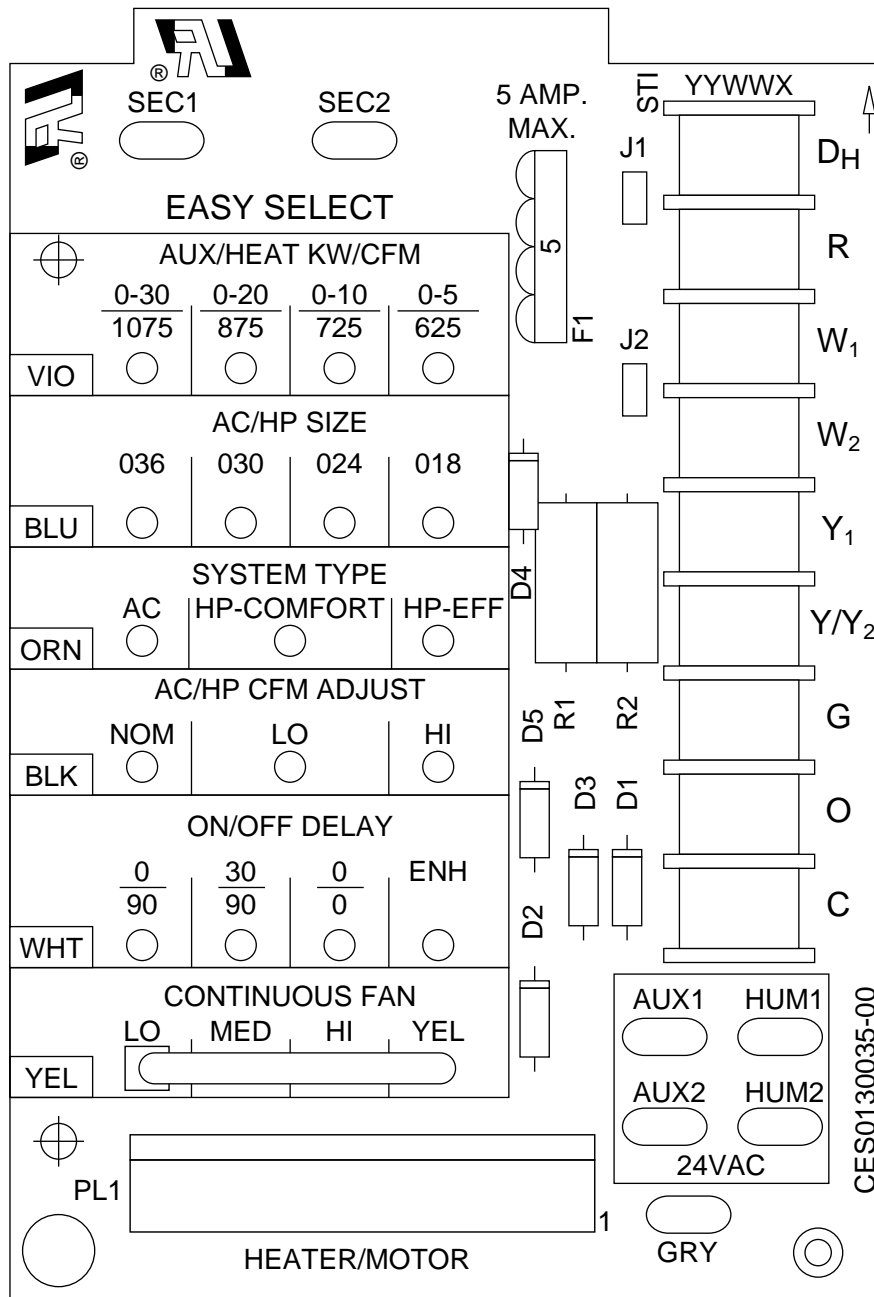

Fig. 24—Easy Select Board
NOTE: Layout of actual PCB is depicted in Fig. 24 and 25.
The Easy Select taps are used by installer to configure system. The ICM2 uses selected taps to modify its operation to a pre-programmed table of airflows. Airflows are based on system size or mode of operation and those airflows are modified in response to other inputs such as the need for de-humidification. (See Fig. 24.)
The installer must select the auxiliary heat airflow approved for application with kw size heater installed. If no heater is installed, skip this step. Each select pin is marked with a range of heaters for which airflow (also marked) is approved. For increased comfort select the narrowest kw range matching the heater size, for example, 0-10 for a 10-kw heater. This airflow must be greater than the minimum CFM for electric heater application with the size system installed for safe and continuous operation. Note that airflow marked is the airflow which will be supplied in emergency heat mode and heating mode on air conditioners when electric heat is primary heating source. To ensure safe heater operation in heat pump heating mode when electric heaters are energized, the ICM2 will run the higher of heat pump airflow and electric heater airflow. The factory selection is largest heater range approved. (See Fig. 24.)
that airflow delivered falls within proper range for size of unit installed in all operational modes. (See Fig. 24.)
The factory setting is AC. (See Fig. 24.)
Select low, nominal, or high airflow. To provide any of these airflows, AC/HP ADJUST select must be moved to NOM position. The factory selection is NOM. The adjust selections HI/LO will regulate airflow supplied for all operational modes, except non-heat pump heating modes, +15 percent and -10 percent respectively. The adjust selection options are provided to adjust airflow supplied to meet individual installation needs for such things as noise, comfort, and humidity removal. (See Fig. 24.)
Select desired time delay profile. Four motor operation delay profiles are provided to customize and enhance system operation. (See Fig. 24.) The selection options are:
Select desired Continuous fan profile LO, MED, or HI. Airflow are provided to customize and enhance the continuous fan functions. (See Fig. 24.) The possible selections are:
1. Check low-voltage transformer leads (red and brown). Be sure they are wired to correct locations. (See Fig. 24 and 26.)
2. Check low-voltage fuse shown in Fig. 24. If fuse is blown, replace it. The transformer cannot supply power to board with fuse blown or loose. If fuse blows when unit has power applied to it, the system most likely has 1 of the following problems: